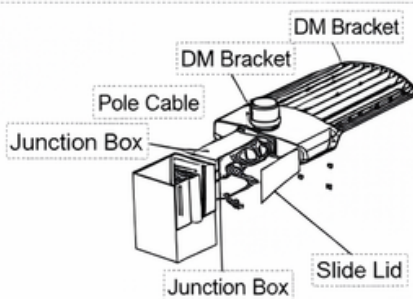

Figure 18
2.3 DIRECT MOUNTING (DM)
Step 1: Fix DM bracket to square pole with bolt, open the slide lid of DM bracket, pull the wire into junction box. (Figure 18)